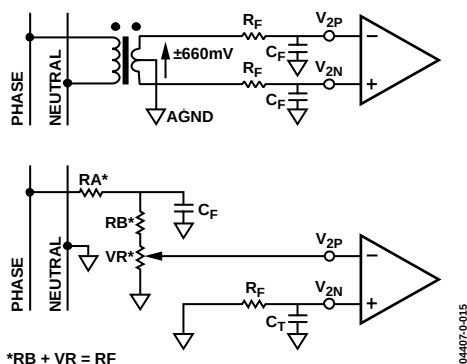

Figure 14. Typical Connection for Channel 2
Figure 14 shows two typical connections for Channel V2. The first option uses a potential transformer (PT) to provide complete isolation from the main voltage. In the second option, the ADE7761 is biased around the neutral wire, and a resistor divider is used to provide a voltage signal that is proportional to the line voltage. Adjusting the ratio of R_A and $R_B + V_R$ is a convenient way of carrying out a gain calibration on the meter.